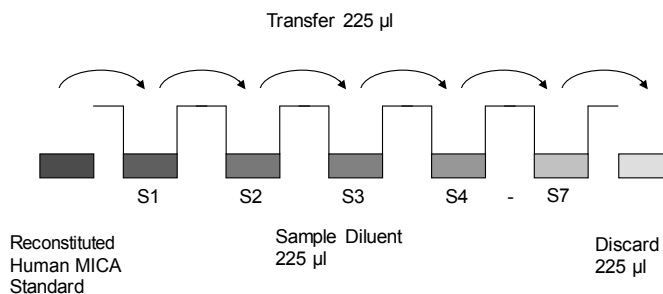

Fig. 7 Dilute standards - tubes
5. Repeat serial dilutions 5 more times thus creating the points of the standard curve (see Figure 7).